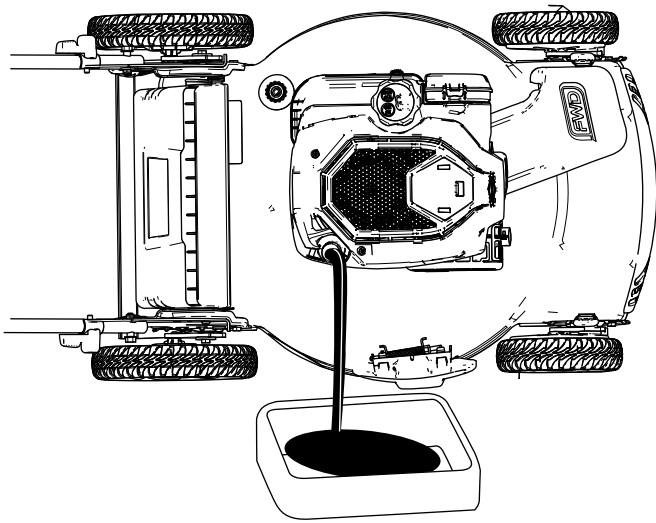

Figure 23
4. Tip the machine onto its side (so that the air filter is up) to drain the used oil from the oil-fill tube (Figure 23).